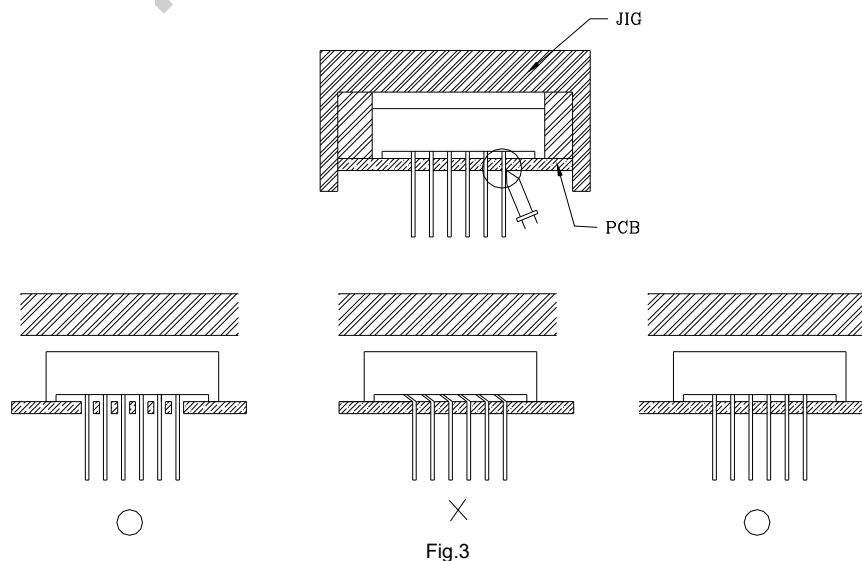

**Fig.2**
- 2) Similarly, when a jig is used to solder the Display to PC board, take care as much as possible to avoid steering the PIN (See Fig.2).